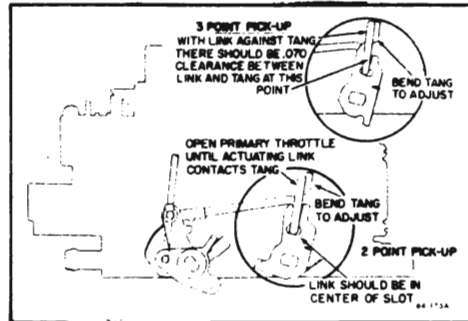

Figure 64-50 - Secondary Opening Adjustment
- (a) With 2 point pick-up linkage, bottom of link should be in center of secondary lever slot. See lower part of Figure 64-50.
- (b) With 3 point pick-up linkage, clearance between link and middle tang should be .070 inch. See upper part of Figure 64-50.